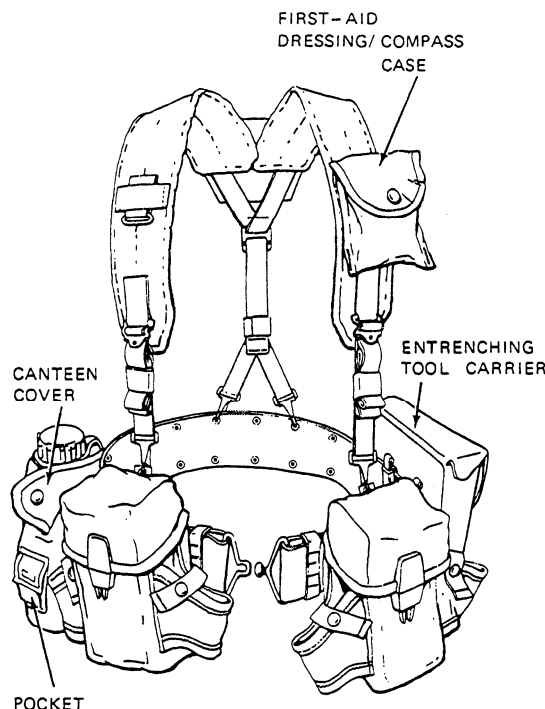

Figure 2-6.—Attaching entrenching tool carrier, canteen cover, and first aid dressing/compass case.
Attach the carrier to the belt on the left side by means of the two slide keepers on the back of the carrier as close as possible to the ammunition pouch. (See fig. 2-6.)
- Attach the cover onto the right side of the belt by means of the two slide keepers on the back. Attach it as close as possible to the ammunition pouch (See fig. 2-6.)
This case can be attached by means of the slide keeper on the back of the case in either of the following positions: (See fig. 2-6.)